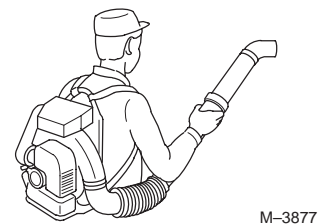

Figure 11
7. When the engine has warmed up, the backpack blower can be positioned on the back of the operator (Fig. 11).